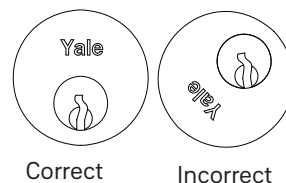

Figure 12
- Yale logo must be horizontal and on top. (See Figure 12)